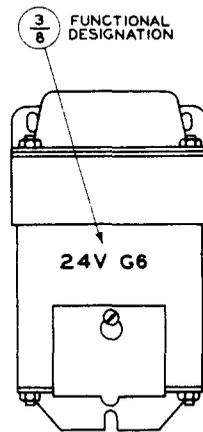

Fig. 37 - Reactor or Transformer
2.49 Designate reactors per Fig. 37.
2.71 See Fig. 37.